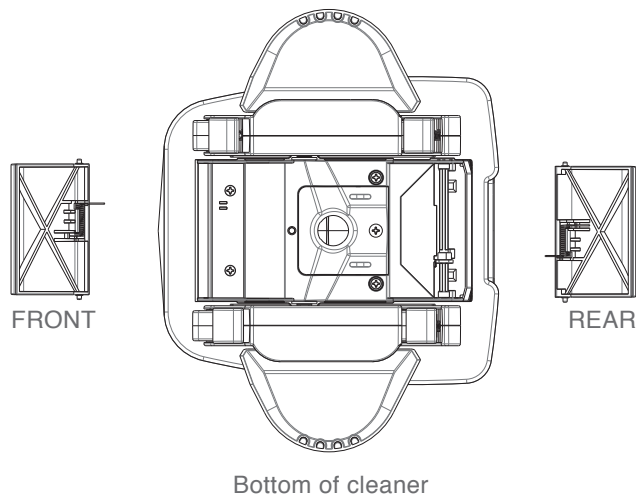
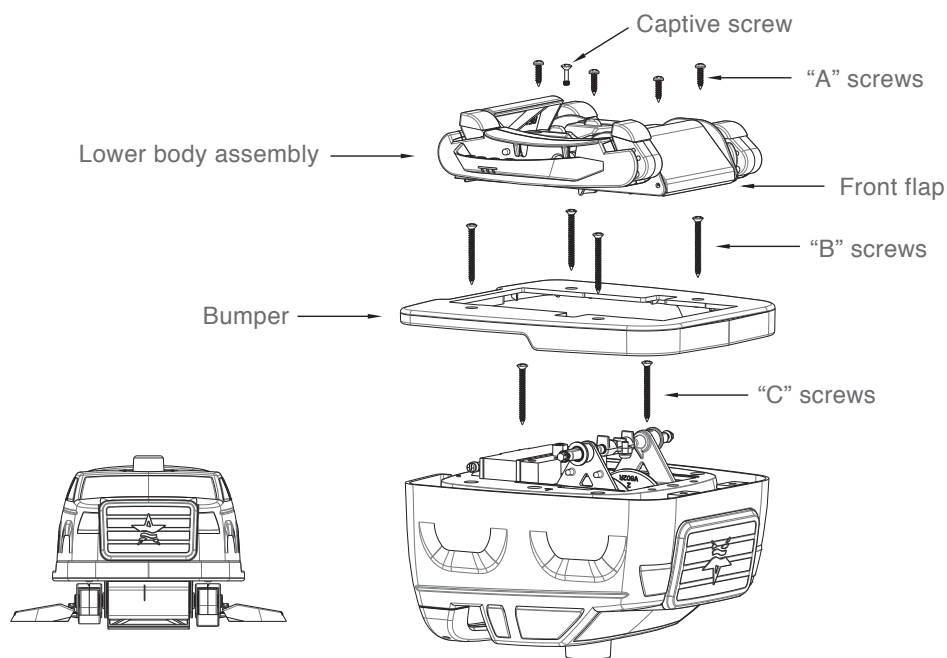

Fig. 15
Fig. 16
- B. You will notice that your replacement flaps look similar but are marked “Front” and “Rear” on the flap. Because the springs in the flaps are different, it is absolutely necessary to install the proper flap in the front and rear of the unit. Failure to do so will result in unsatisfactory performance of the StarzTruck automatic pool cleaner. When installing the front flap, be sure that the extended leg of the spring is inserted into the notch on the front of the lower body (see Fig. 16). Push the flap in place. You will feel and hear a snap when the flap is in place. Fold the flap in toward the bottom of the StarzTruck automatic pool cleaner. You will feel some resistance at this point (that is normal). As the flap snaps into its normal position, you will feel the spring action and notice that the front flap is now in its normal operating position. When installing the rear flap, the extended leg of the spring must fit against one of the flat surfaces of the cam (see Fig. 15).
5. Locate and loosen the captive screw behind the throat in the center of the bottom (see Figs. 16, 17 & 18).
7. Remove four “A” screws (see Fig. 16).
8. Lift the lower body assembly off the StarzTruck automatic pool cleaner (see Fig. 16).
9. Remove four “B” screws (see Fig. 16).
11. Remove two “C” screws (see Fig. 16).